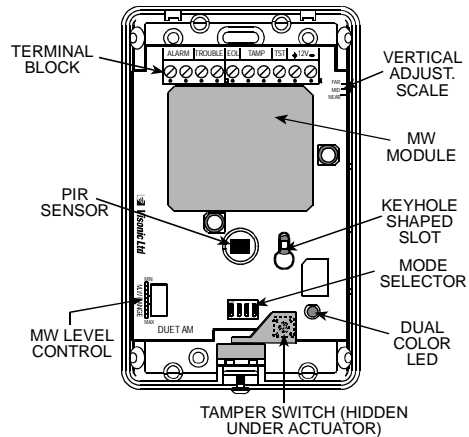
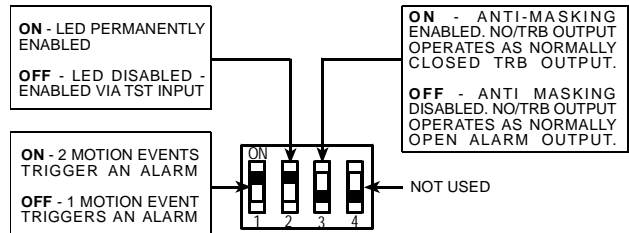

Figure 4. PCB Layout
Figure 7. DIP Switch Mode Selector
- Loosen the vertical adjustment screw, slide the PCB up and remove it via the "keyhole" (see Figure 4).
The DIP switch mode selector is mounted on the unit's PC board (see Figure 4). It controls four functions as demonstrated in Figure 7.
The vertical adjustment scale for the PIR sensor is located at the upper right edge of the PC board (refer to Figure 4). Three positions are available - FAR, MID and NEAR. All new DUET-AM C/O units are set to the FAR position.